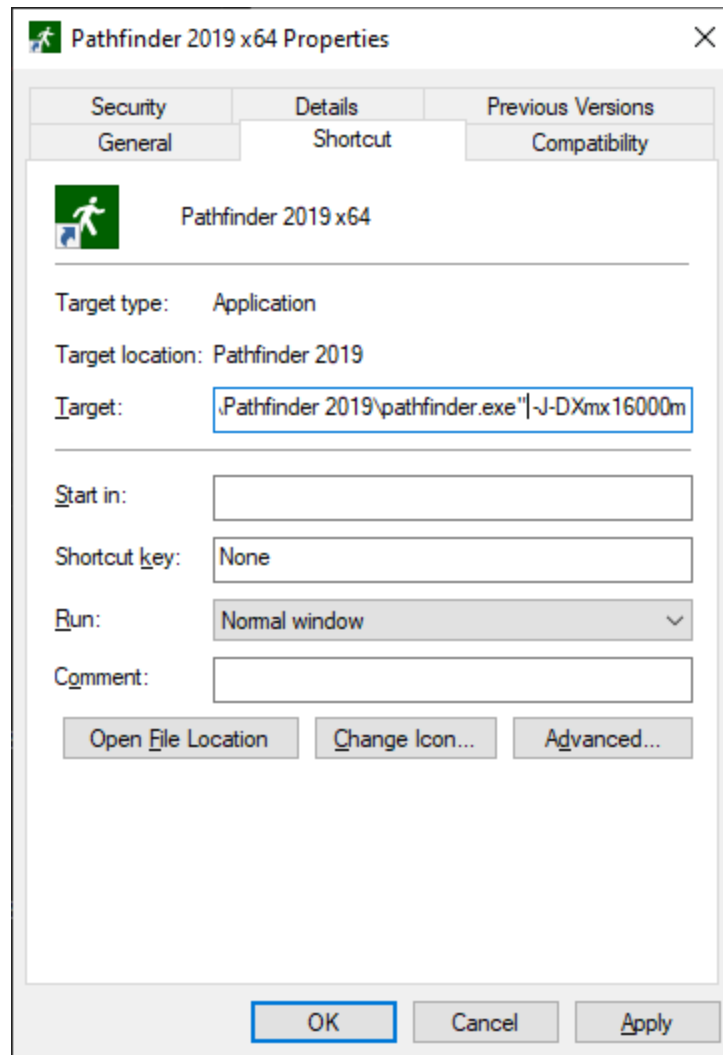

Figure 142. Example Shortcut Dialog
4. At the end of the **Target** field, type a space on the keyboard and then `-J-DXmx16000m`. The shortcut dialog will look similar to Figure 142.